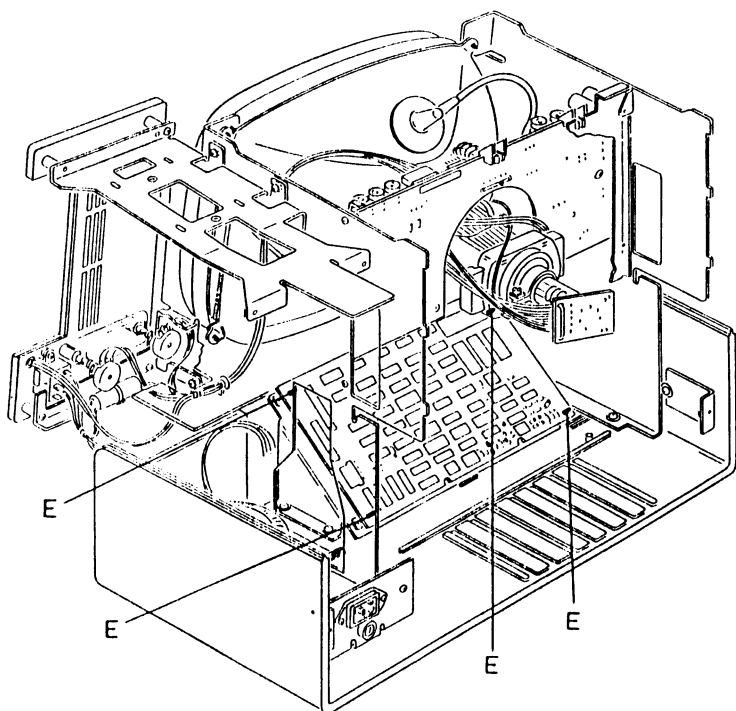

Figure 2.13 Fixed disk controller removal
2. Press in the retaining detents of the plastic stand-offs E, and carefully lift the fixed disk controller board off the mounting plate, see Figure 2.13.